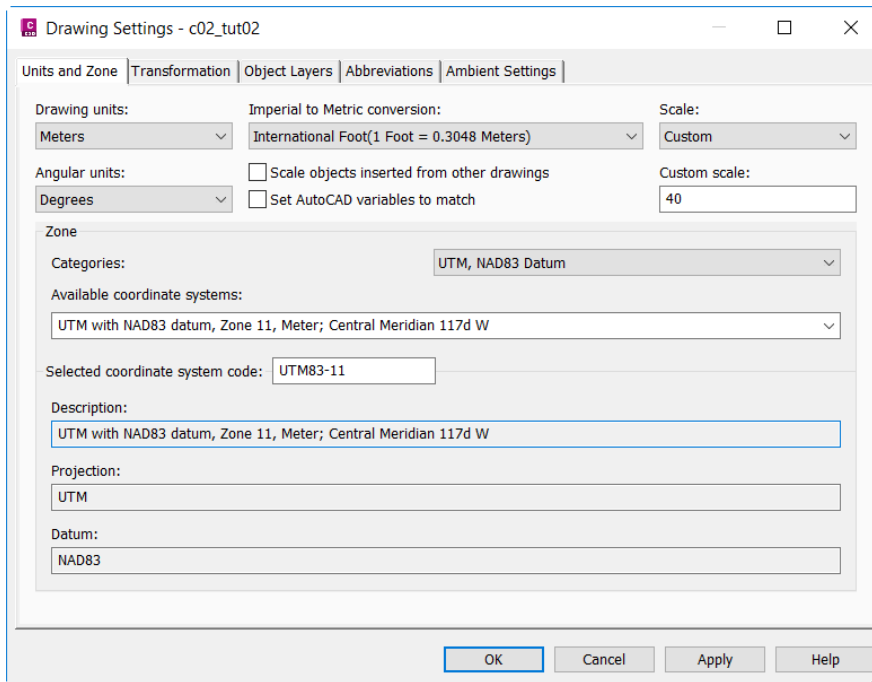

Figure 2-66 The **Units and Zone** tab of the **Drawing Settings** dialog box
5. In the **Units and Zone** tab of the **Drawing Settings** dialog box, refer to Figure 2-66, ensure the settings as follows: